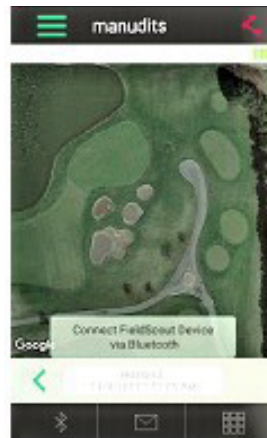

Figure 5b - Bluetooth Connect Button (Freeform)
7. In SpecConnect Freeform mode, the app will transition to the session screen (Figure 5b)